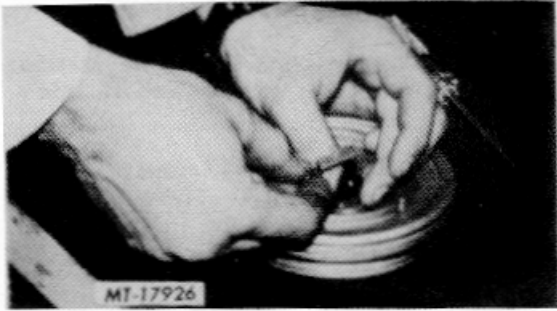

Fig. 7 Installing Check Valve
4. Install new ball check valve and replace the retaining clip and screw (Fig. 7).
2. Install the previously rebuilt desiccant sealing plate on the cartridge bolt so that the ball check retaining clip remains visible (see Fig. 7).